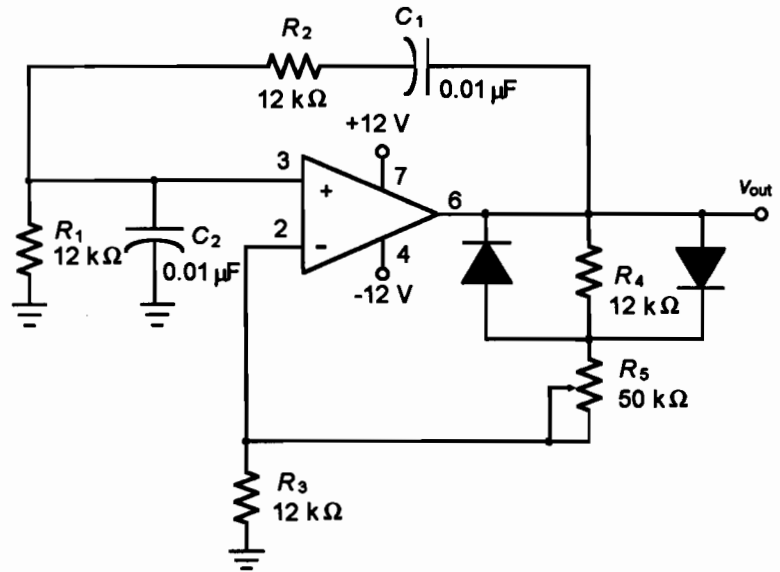

Figure 50.1
1. Construct the circuit in Figure 50.1. Set  $R_5$  to  $25\text{ k}\Omega$ , and temporarily short  $R_4$  and the Z diodes by placing a jumper in parallel.